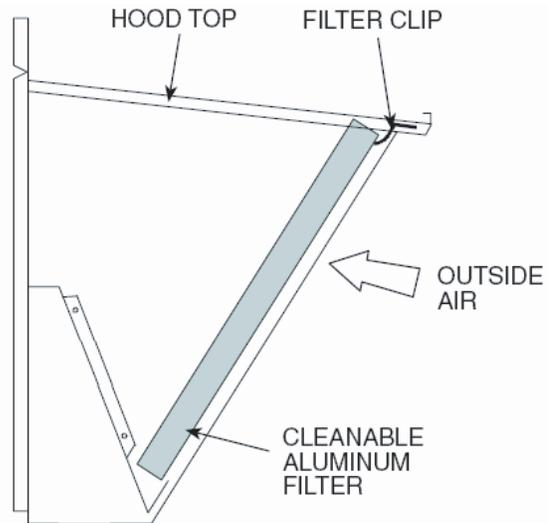

Fig. 4 — Filter Installation
7. Install the provided aluminum filter into the hood and lock in place with top filter clips as shown in Fig. 4.